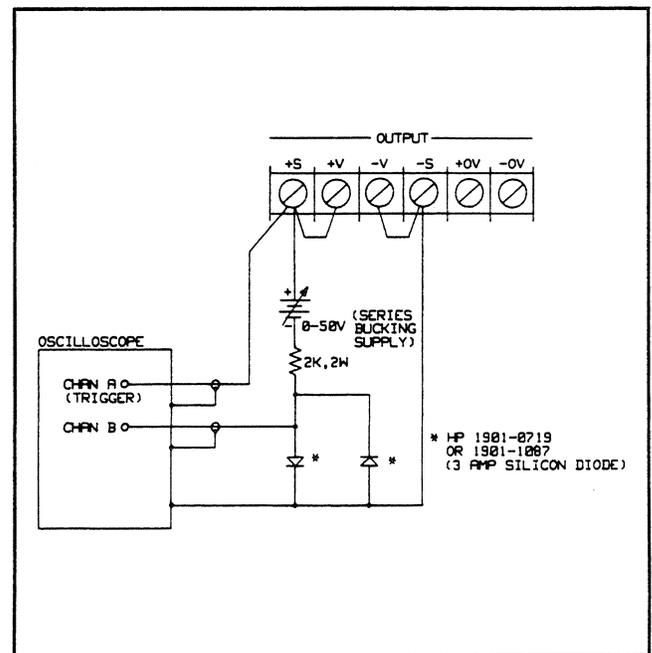

Figure 3-6. CV Up Programming Speed Test Setup
- a. Turn off the supply and connect the output to be tested as shown in Figure 3-6.
- j. Now observe Channel B on the oscilloscope while maintaining the trigger on Channel A as in step h. Note the series supply bucks out the Full Scale Output Voltage and that the waveform is clamped at approximately -0.6 V and rises to the top horizontal line when the output voltage is at full scale. The diodes (see Figure 3-6) prevent gross overload of Channel B (which is set at 50 mV division) allowing examination of the "tail" of the exponential waveform. The output voltage should be within 20 mV of its final settling value on the top horizontal line in less than 2 msec. for 40WLV/80WLV outputs and within 50 mV in less than 6 msec. for 40WHV/80WHV outputs.